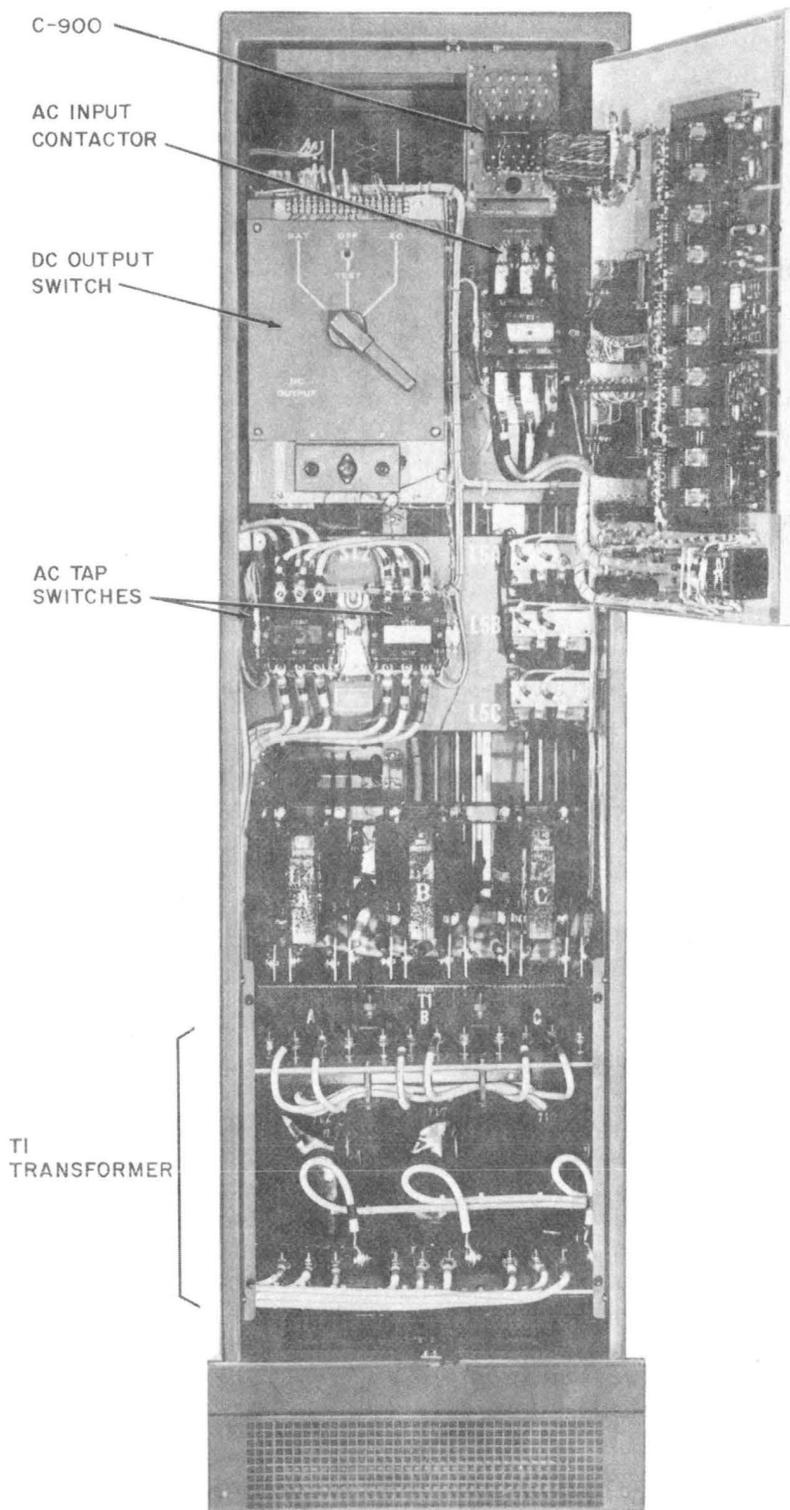

Fig. 1—KS-20490 Rectifier—Front View With Control Panel Open
**1.01** The KS-20490 rectifiers provide an isolated, filtered and regulated dc voltage for automatically floating and charging battery plants. The rectifiers are initially intended for use in the 300-type power plants but may be used whenever their characteristics and design apply. See Fig. 1 and 2.